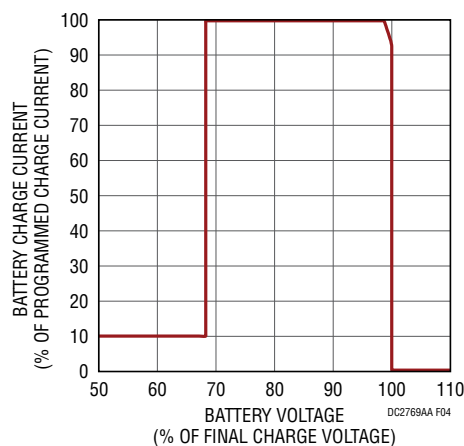

Figure 4. Battery Charge Current vs BAT Pin Voltage
6. DC2771A-A.D1 LED should be turned on. DC2775A.D1 LED should start blinking intermittently. AM1 should be reading 10mA. If the AM1 meter reads much less than 10mA, read VM1 and check whether LTC4124 is in constant current mode (Figure 4).